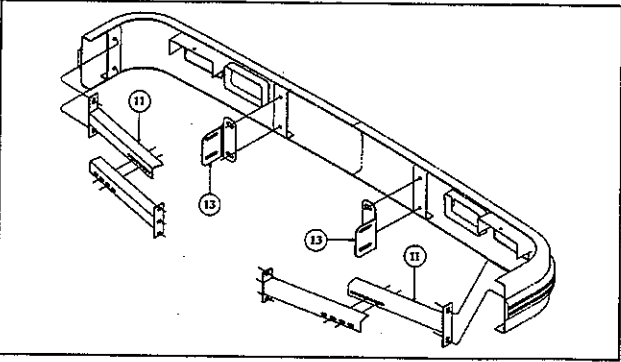

Figure 2—Front Bumper
- See Figure 2—Front Bumper
2. Remove the nut, washer and bolt from the bracket (11).